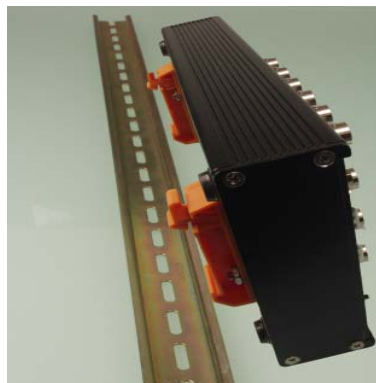

Figure 4: BNC DIN Rail Kit
- **BNC DIN Rail Kit** – The BNC DIN Rail Kit, shown in Figure 4, allows you to mount USB modules that are packaged in metal boxes in a DIN rail. The kit includes mounting clips, screws, and instructions. The rail is not included.